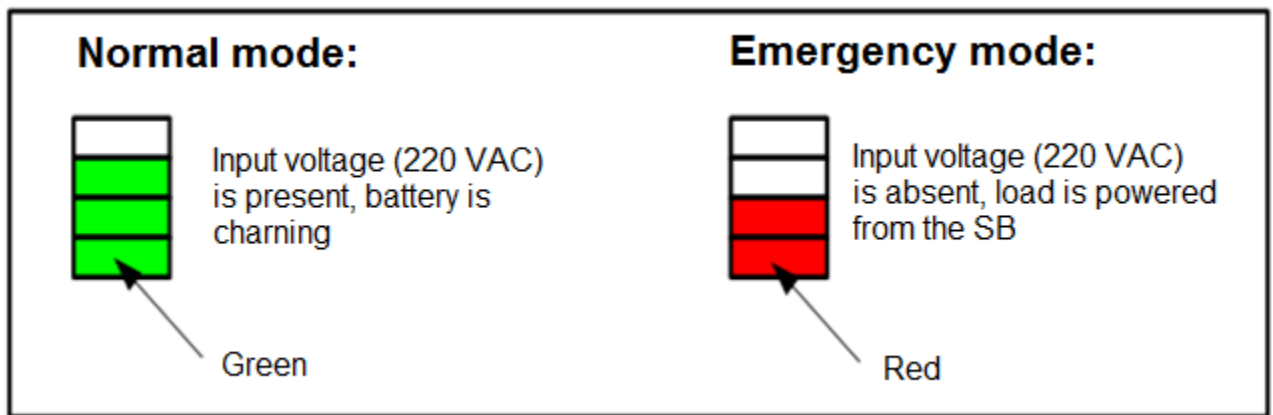

Figure 3 – Modes and colours of the BPS’s LED charge indicator
- while running from the main power system The BPS ensures automatic charge of the built-in storage battery (hereinafter – the SB), the charge level is represented on the four-segment LED charge indicator, see Figure 3;
| 3 | Display | --- | 4-segment LED charge indicator. For more details see Figure 3 |
Built-in 4-segment LED charge indicator is located on the upper panel of the Product. Number of segments represents the battery charge level, see Figure 3 and Table 5.